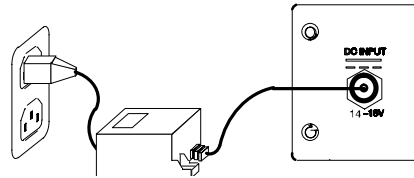

FIGURE 4
1. Plug the dc power supply into the power connector on the back of the receiver, as shown in Figure 4. Connect the other end of the power supply into an electrical outlet.